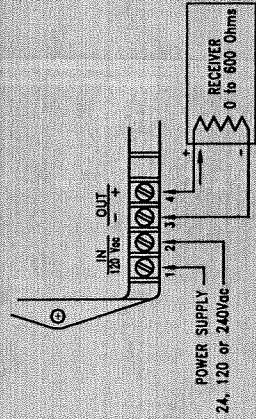
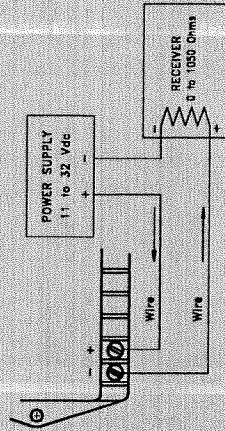

Figure 5
Figure 3
The power supply leads are connected to the two leftmost terminals (terminals 1 and 2) on the terminal strip (see Figure 5). The output signal is accessed across terminals 3 and 4, the rightmost terminals, labeled "+" and "-" (see Figure 5). The output terminals are transformer-isolated from the power supply. The output current is totally floating and either the "+" or "-" terminal may be grounded.
B. Series T30 or T40- With an ammeter connected in the loop (see Figure 3 or Figure 5, respectively), apply full pressure to the instrument and adjust the Span potentiometer R1, until the output reading is 20.00 mA.
This is a 2-wire, 4-20 mA pressure transmitter which requires an external DC power supply of 11 to 32 Vdc to power the loop. The supply voltage should not exceed 32 Vdc (see Figure 3).